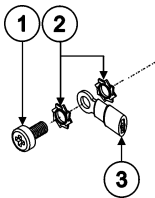

Figure 3: Ground Connection
To connect the grounding to the WP-110xl as shown in Figure 3:
2. Insert the M3x6 screw through the toothed locking washers and the ring-tongue terminal in the order shown in Figure 3.